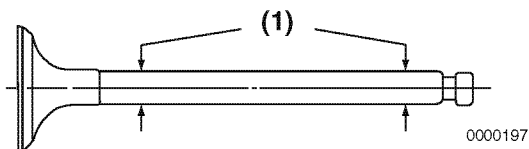

Figure 6-16
Use a micrometer to measure the valve stem diameter. Measure the valve stem near the combustion end and near the opposite end (**Figure 6-16, (1)**). Record the measurements. See *Intake / Exhaust Valve and Guide* on page 6-6 for the service limit.